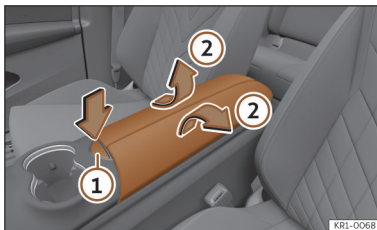

Fig. 91 Front centre armrest
Tap on button ① >>> **Fig. 91** to open the armrest. Inside, there is a storage compartment.